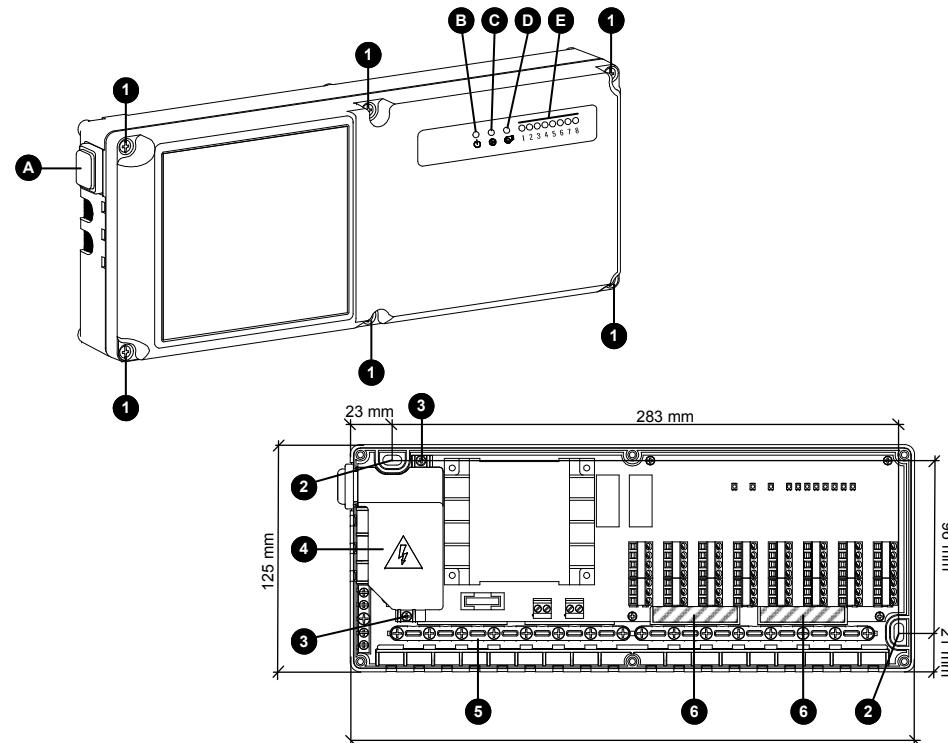

Fig. 1: Internal view and parts.
- Fix the device base to the wall by using the two screw holes labelled **②** in Fig. 1.
- Remove the 2 screws labelled as **③** in Fig. 1 then remove the plastic cover labelled as **④** in Fig. 1.
With the help of a screwdriver, remove the plastic knock-outs from the base, see item **⑤**, Fig. 1. Cables can then be taken through the backplate to the terminal connections.
Green LED: power supply '⊕' (Ⓐ Fig. 1)
Red LED: pump output activation '⊖' (⊖ Fig. 1)
Red LED: boiler output activation '⊖' (⊖ Fig. 1)
Actuator outputs state LEDs '1..8' (① Fig. 1)
ON / OFF illuminated switch (Ⓐ Fig. 1)
The illuminated switch at the lower left hand side of the wiring centre will isolate the whole of the wiring centre except the parts under the plastic cover, item ④, Fig. 1, to allow access to thermostats and actuators for testing and fault finding during installation.
- Remove the 6 screws labelled as ① in Fig. 1 then remove the front plastic cover.